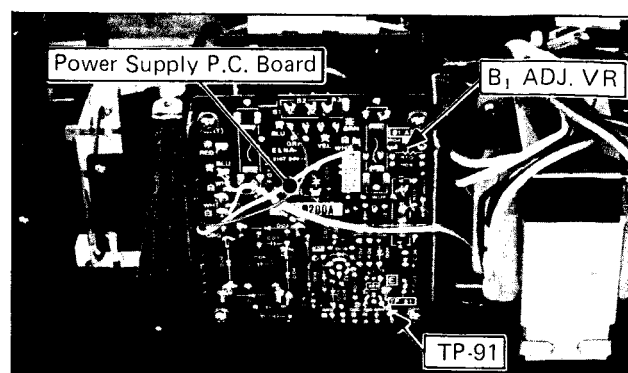

Fig. 15
2. Rotate the B₁ adjusting VR so that DC voltage between the TP-91 in the power supply block and the grounding wire becomes 10.7V (see Fig. 15). Concurrently, confirm that the TP-92 in the TV P.C. board indicates 10.5V.